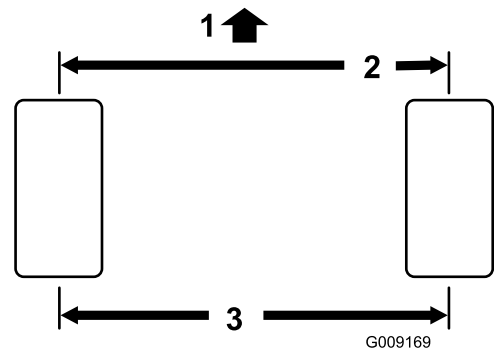

Figure 91
1. Measure the center-to-center distance (at axle height) at the front and rear of the steering tires. The front measurement must be 3 mm (1/8 inch) less than the rear measurement (Figure 91).